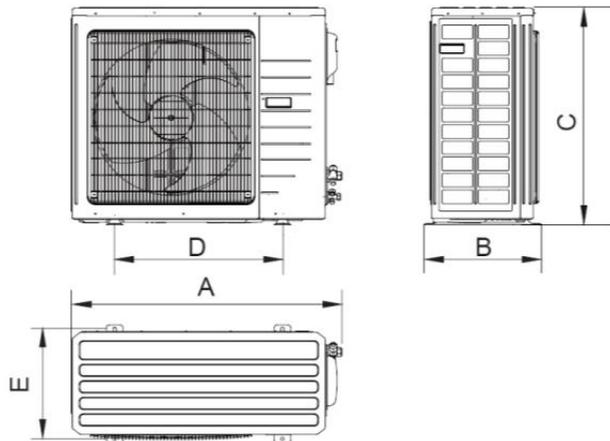

Fig. 4.8
4.2.2 Condensate Drainage of the Outdoor Unit (Fig. 4.8)